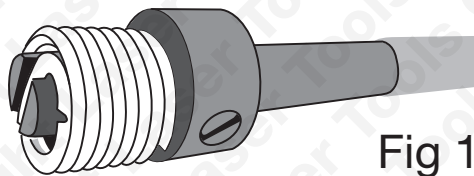

Fig 1
- If working on a blind hole set the position of the depth adjustment collar **(B)** on the insertion driver tool **(A)** so that it engages the coil tang but will not bottom out before the insert is fully inserted (refer to Fig 1).